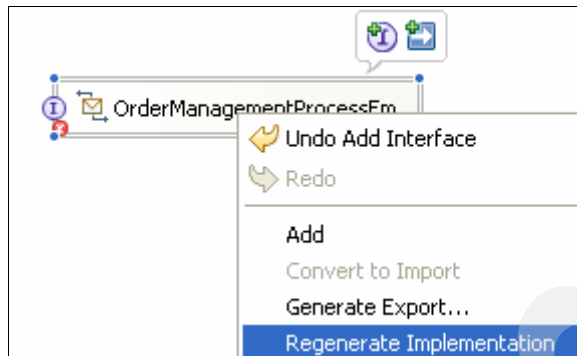

Figure 4-32 Regenerating implementation for the mediation module
4. Right-click the mediation flow, and select **Regenerate Implementation** as shown in Figure 4-32. Then, click **OK** to confirm replacement of the implementation.